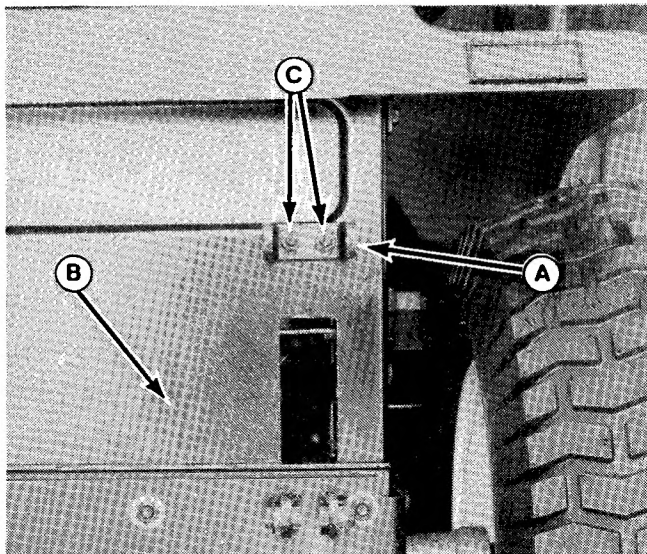

Figure 30.
4. Install idler box bracket (A, Figure 30) to wrapper (B). Install bolts from inside of wrapper and secure with nuts (C). Secure battery again.